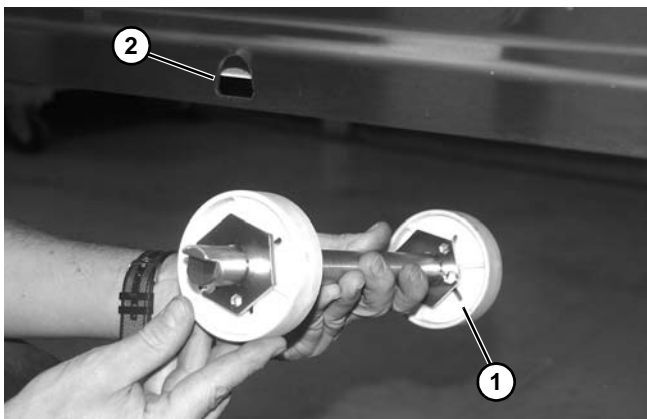

Figure 74
1. Remove belt return assembly (Figure 74, item 1) from slotted holes (Figure 74, item 2) on each side of conveyor frame.